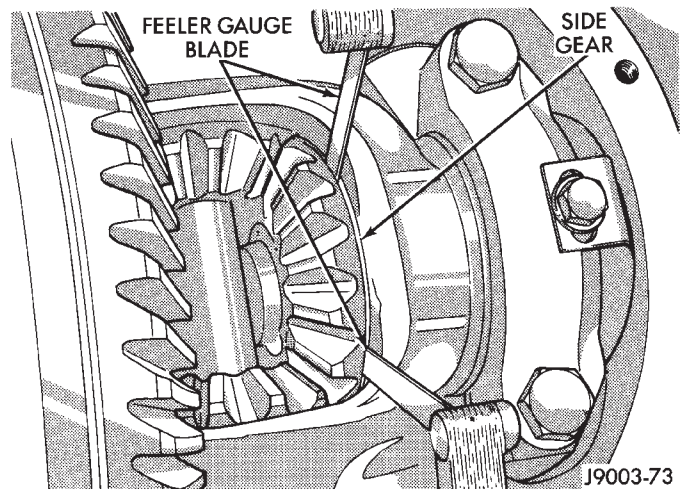

Fig. 31 Side Gear Clearance Measurement
(1) Install the axle shafts and C-clip locks and pinion mate shaft. If necessary, refer to the installation located within this group.
(2) Measure each side gear clearance. Insert a matched pair of feeler gauge blades between the gear and differential housing on opposite sides of the hub (Fig. 31).